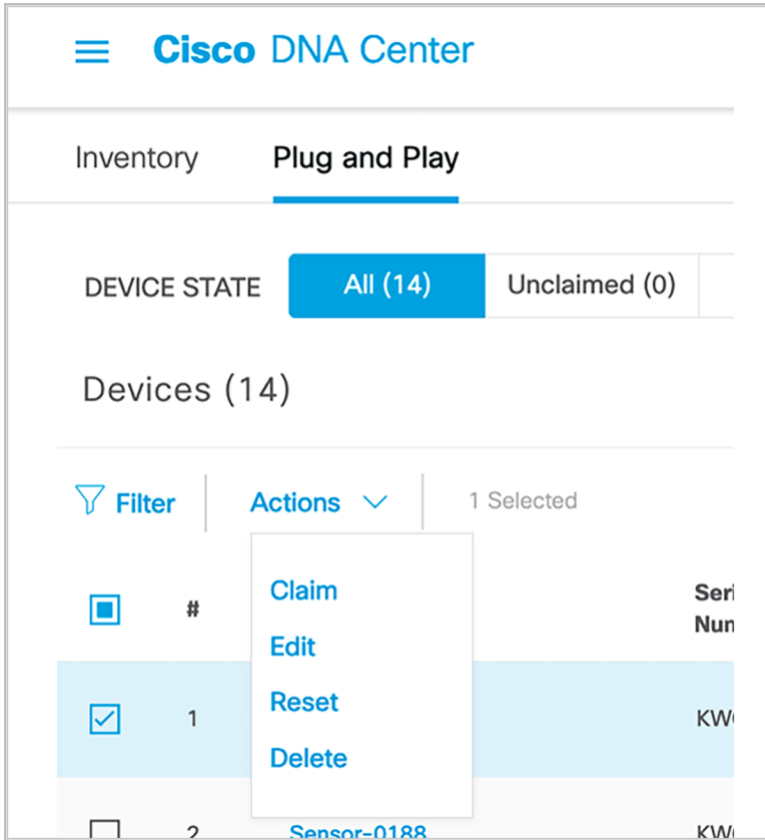

Figure 46.
- i. Ensure that the device status changes from Unclaimed to Planned to Onboarding to Provisioned (**Figure 46.**).